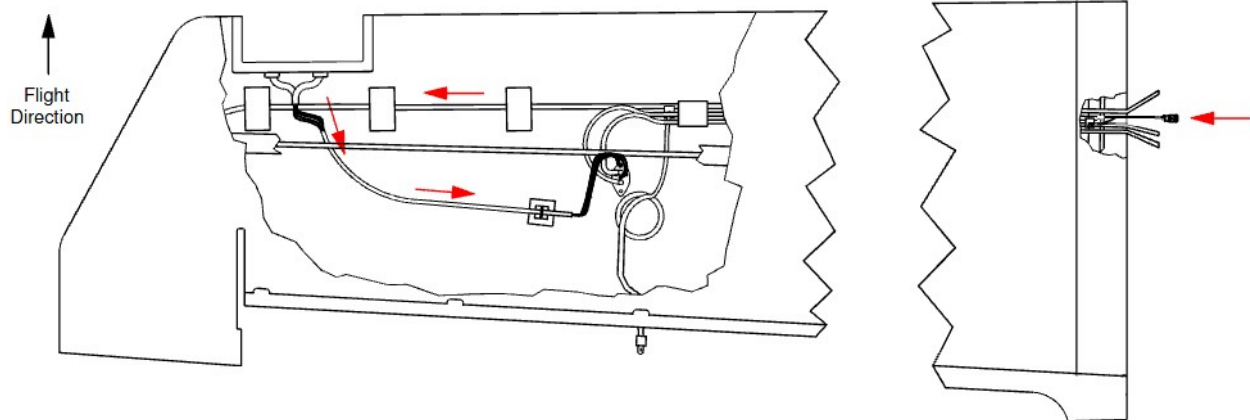

Figure 47: Routing of Wires in Wing
- 13.2.3** Route the prepared wires through the wing conduit and along the existing wire harness for the wing. Pull the wires out of the hole in the wing conduit at the Landing/Taxi Light Cut-Out and route them through the Pitot Heat Conduit towards the Pitot Probe Opening, as shown in Figure 47.